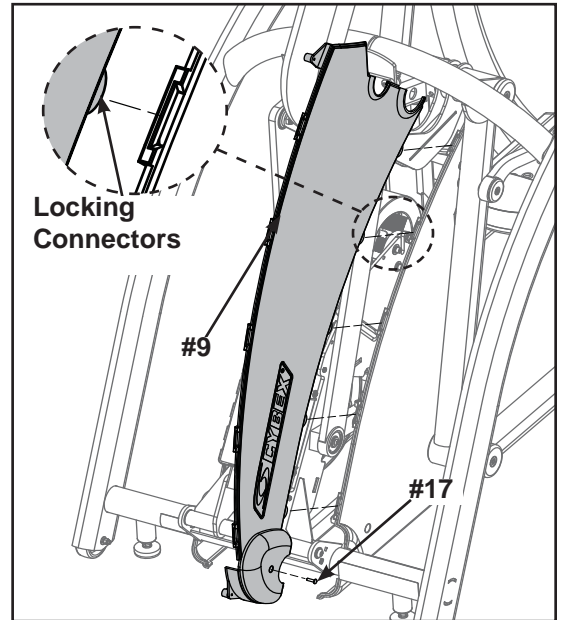

Figure 5
- B. Place the upper left side cover (#9) in position on mainframe and hand thread the Phillips screw #8 X .625 BLK (#17). See Figure 5.
NOTE: Ensure the locking connectors are securely in place. See Figure 5.